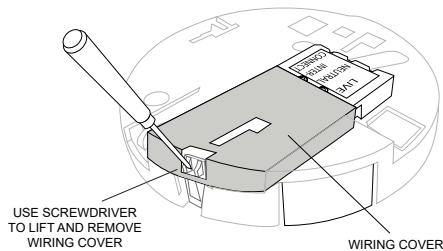

FIGURE 7 – LOCKING THE ALARM UNIT WITH THE BASE
- Insert the Lock Key into the Lock Hole at the side of mounting base. See **Figure 7**